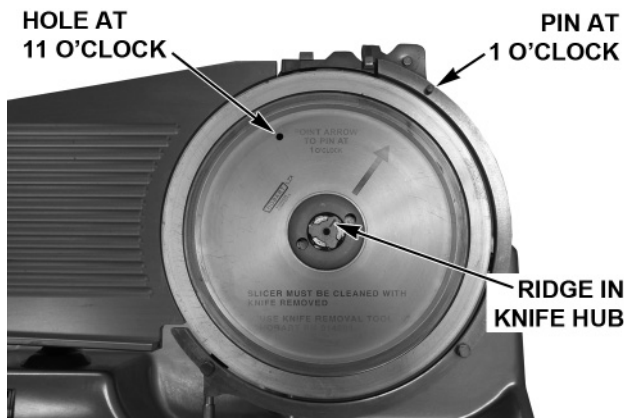

Fig. 19
- Orient the Ridge (Fig. 19) in the Knife Hub so it points to the Pin on the Ring Guard at the 1 o'clock position (Fig. 19).